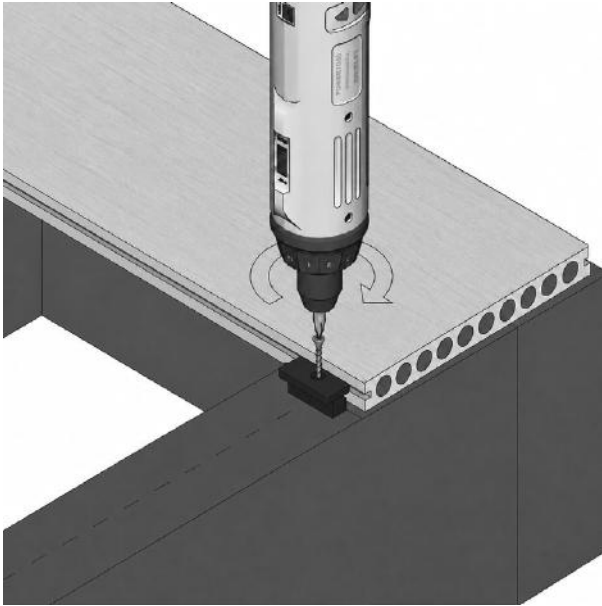

FIG. 4 - SECURE SCREW DRIVEN INTO THE HIDDEN FASTENER
- 01 For 6 mm hidden clips, lightly screw in place; do not tighten at this point (fig. 4). For 3 mm hidden clips, fully tighten the screw at this point.